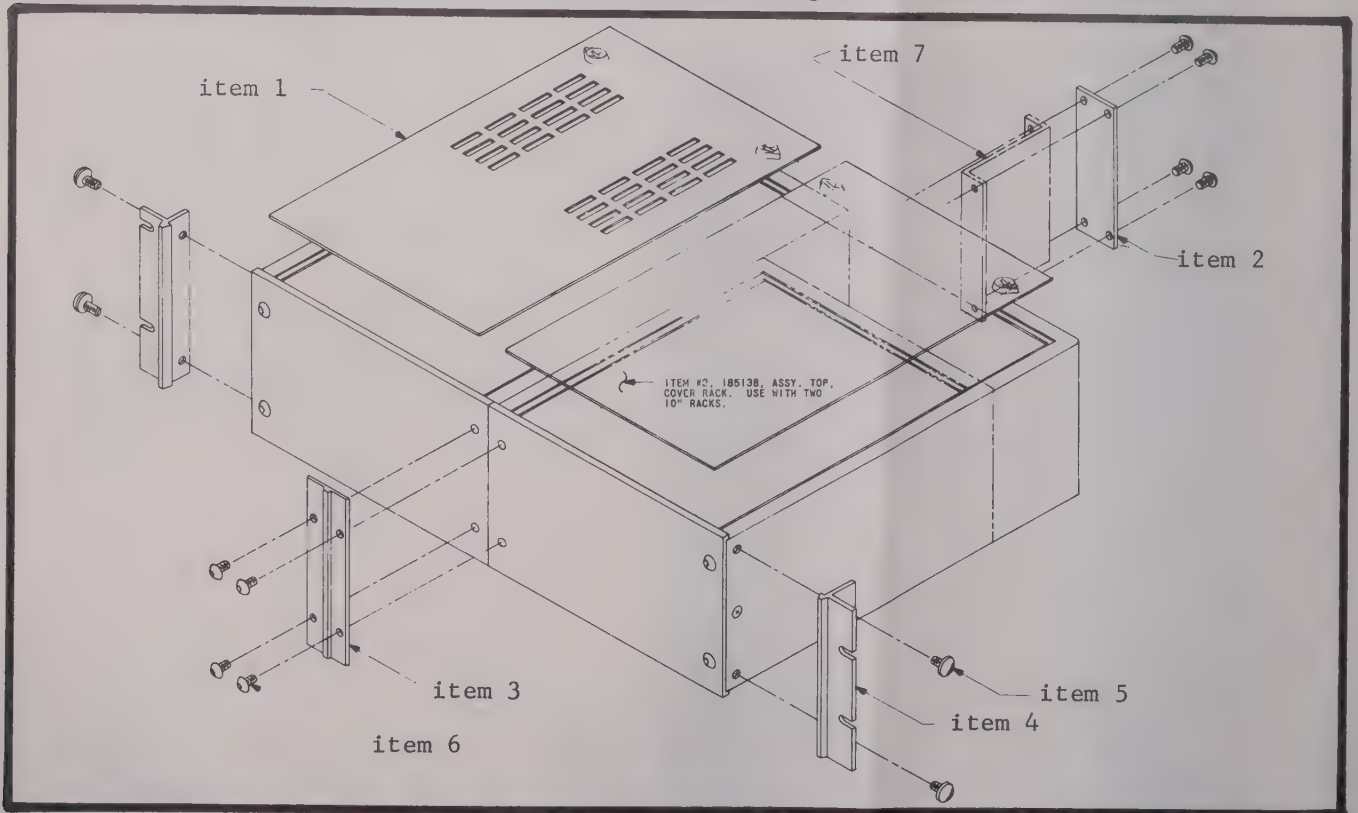

FIGURE 11. Exploded View of Model 4004A Dual Rack Mounting Kit. See Table 11 also.
instrument by removing the two corner screws at the bottom of each side. Assemble the rack mounting parts as shown in Figure 11. If rack mounting two 10 inches deep instruments or two 13 inches deep instruments, attach in this order: cover (1), two rack angles (5), chassis connecting plate (2), and chassis connecting plate (3). If rack mounting one each 10-inch deep instrument and 13-inch deep instrument attach in this order: cover (1), two rack angles (4), chassis connecting plate (3), and zee bracket (7).